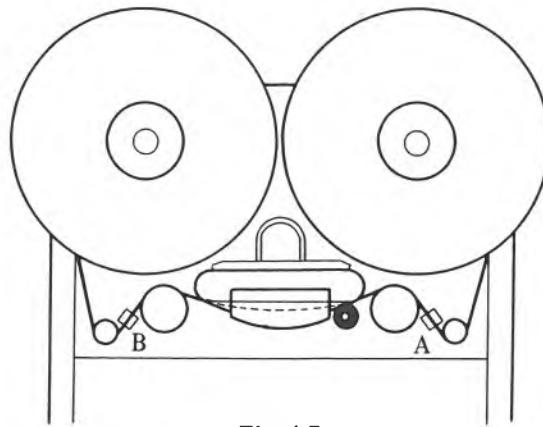

Fig. 4.7
- 2) Insert the tension gauge at point “A” (shown in Fig. 4.7) and set R3 (EDIT-T. UP) for the reading of tape tension of 60g. Next, insert the tension gauge at point “B” and set R4 (EDIT-SUPPLY) so that the reading of tape tension is 60g.
4.2.6.9 Checking the Tape Tension (refer to Fig. 4.7)